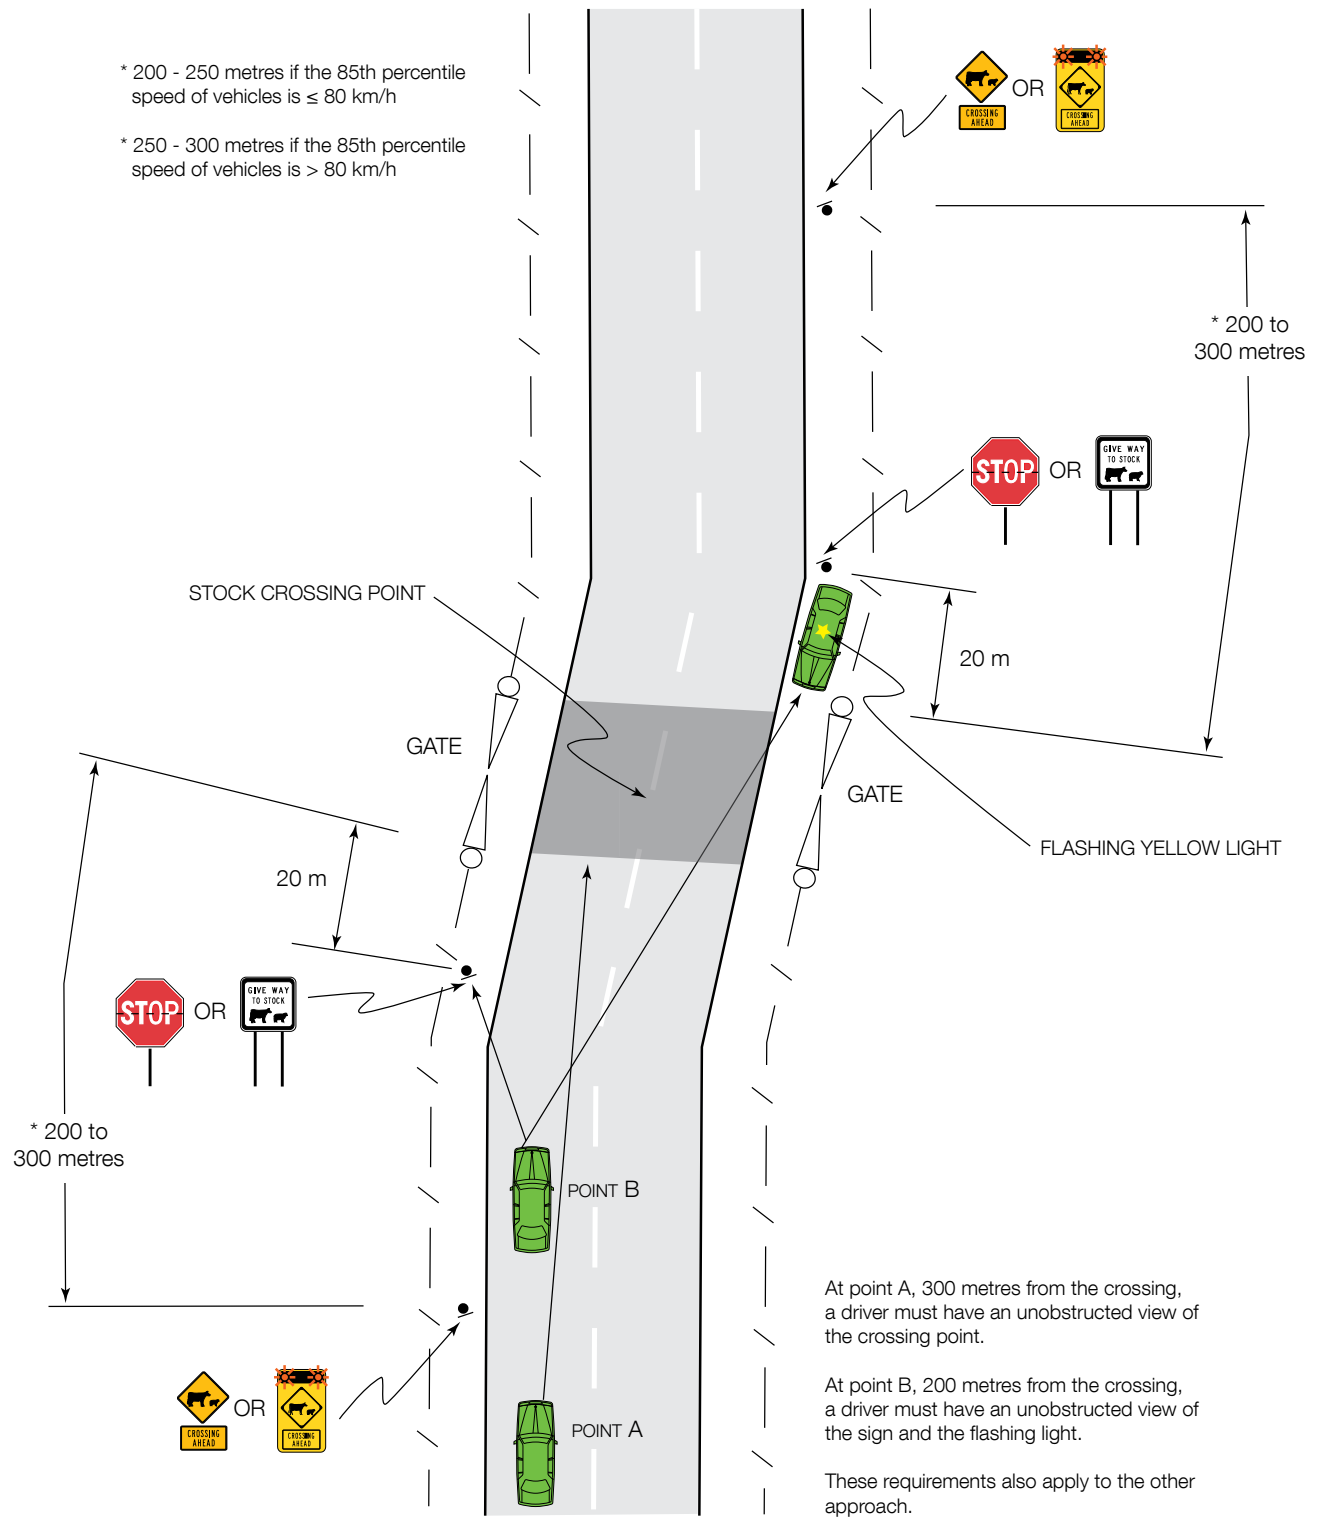
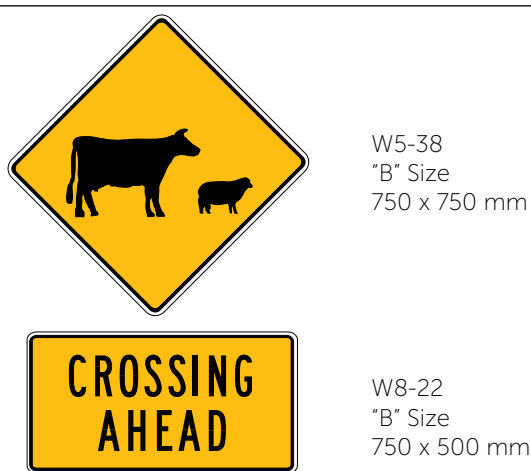
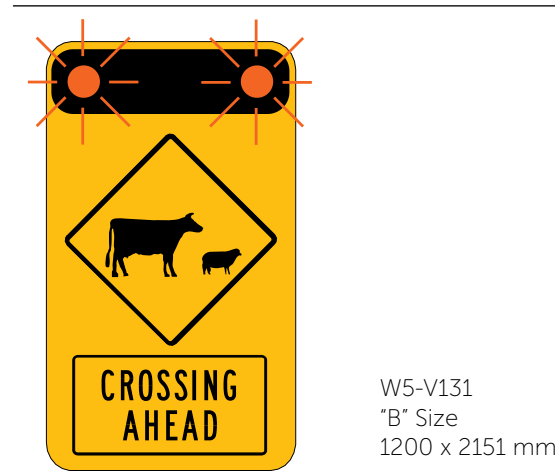

Figure 1: requirements for High Use Stock Crossing Sites
Figure 5
Figure 6
The requirements for High use Stock Crossings are shown in Figure 1.
- approaching drivers can see the crossing point from a minimum of 300 metres away (see point A in Figure 1),
- the regulatory sign, GIVE WAY TO STOCK or STOP (see Figures 2 & 3) and flashing yellow light associated with the stock crossing are visible to approaching drivers from at least 200 metres from the stock crossing (see point B in Figure 1), and the distance the stock have to travel to cross the road is kept to a minimum.
GIVE WAY TO STOCK or STOP signs must be placed 20 metres from the stock crossing point, facing approaching vehicles on both approaches (see Figure 1). The GIVE WAY TO STOCK or STOP signs shall be visible to approaching drivers from at least 180 m (see Figure 1).
In addition, stock (symbolic) warning signs with CROSSING AHEAD supplementary plates complying with Figure 5 (W5-38 with W8-22), must be erected in advance on each approach. These must be installed on the left side of the road, 200 to 300 metres from the stock crossing point, depending on site characteristics (see Figure 1).
For daytime use, if sight distance to the stock crossing point is restricted, or if the area is subject to regular fog, or there is a need to improve driver awareness of the hazard, signs complying with Figure 6 (W5-V131) are to be installed as advance warning signs in place of the sign shown in Figure 5 (see Figure 1). These incorporate flashing lights which must be switched on when the stock crossing is in use and switched off immediately after the stock have crossed.
One flashing yellow light that may be mounted on a vehicle (or by other means), is required at the stock crossing point for all high use stock crossings while the stock crossing is in use (see Figure 1). If the light is on a vehicle, the vehicle should be parked on the edge of the roadway, clear of passing traffic and not obstructing oncoming drivers' view of the signs. The light must be in a position where it can be seen by drivers on both approaches at a distance of 200m from the stock crossing (see Figure 1). The warning light is to be mounted high enough to be seen above the stock. The agreement of the relevant coordinating road authority must be obtained for the type of flashing light to be used. With the approval of the road authority, some other conspicuous device may be used instead of a flashing yellow light at the stock crossing point. An example would be a vehicle-mounted double-sided illuminated sign, flashing alternately the words CATTLE and CROSSING.
For night-time use of a high use stock crossing site, flashing lights on the advance warning signs complying with Figure 6 (W5-V131) are required.